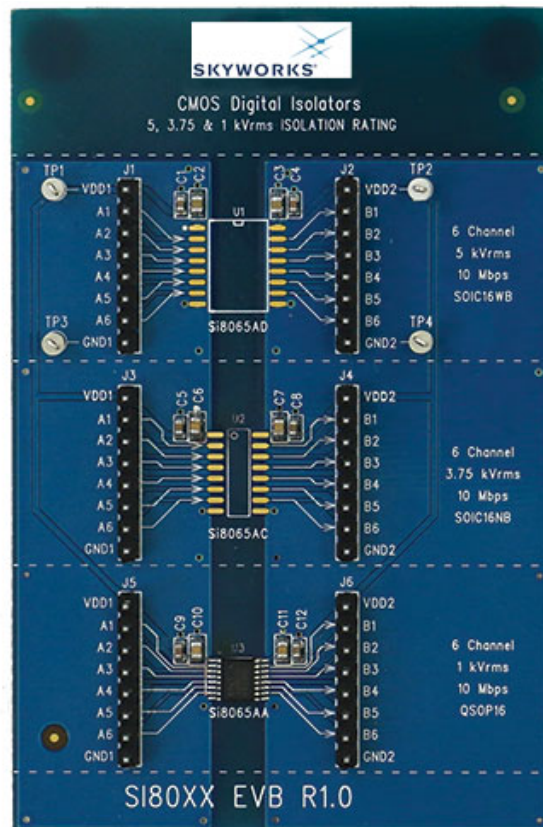

Figure 1. Si80xx Evaluation Board Overview
- Si80xx based evaluation board as shown in Figures 1.